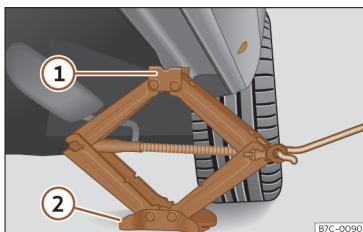

Fig. 245 Crossbar: mounting the jack on the vehicle.
- Turn the jack crank handle, located below the strut support point, to raise it until the tab ① >>> **Fig. 245** is below the housing that is provided.
- Align the jack so that the tab ① “grips” onto the housing provided on the cross member and the mobile base ② is resting on the ground. The base plate ② should fall vertically with respect to the support point ①.